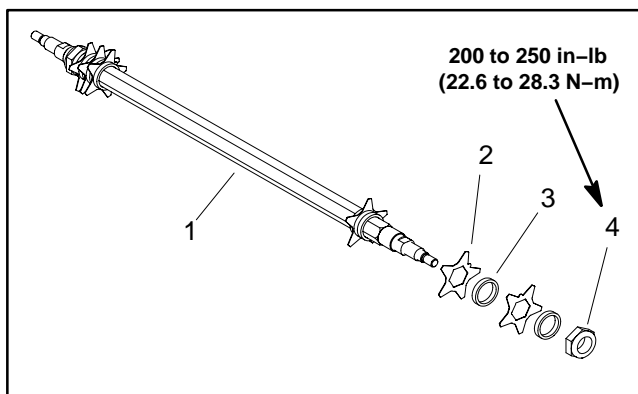

Figure 8
Disassembly (Fig. 8)
3. Remove lock nut from either end of the shaft (Fig. 8).
Assembly (Fig. 8)